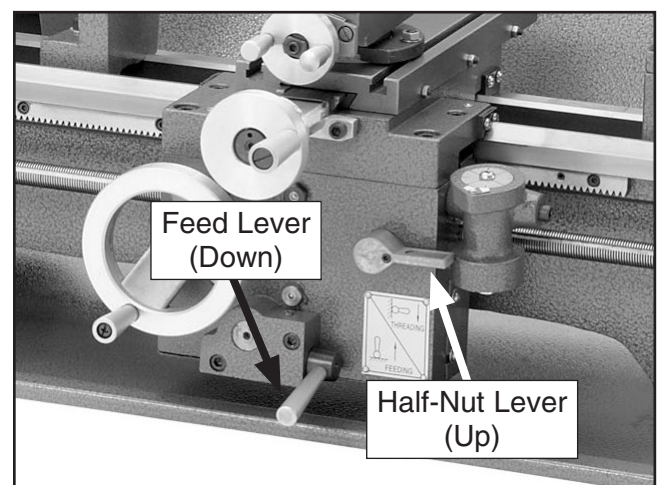

Figure 10. The feed and half-nut levers in the disengaged positions.
5. Make sure the feed lever on the front of the carriage is in the disengaged (down) position and the half-nut lever is in the disengaged (up) position, as shown in **Figure 10**.